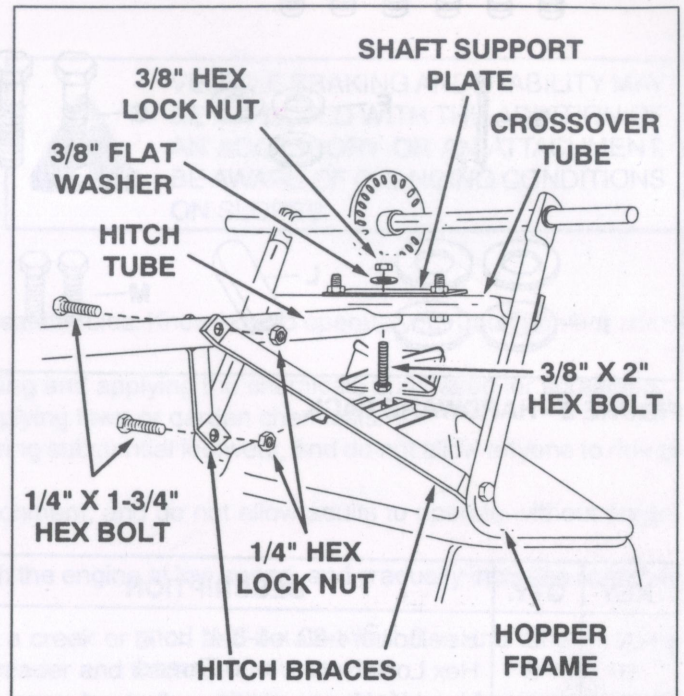

FIGURE 4
- 4. Assemble the two hitch braces to the inside of the hopper frame, one on each side, using two 1/4" x 1-3/4" hex bolts and two 1/4" hex lock nuts. See figure 4. **DO NOT TIGHTEN AT THIS TIME.**
- 6. Align the holes in the ends of the two hitch braces with the nearest hole in the hitch tube. Fasten with a 1/4" x 1-3/4" hex bolt and a 1/4" hex lock nut. See figure 4. **DO NOT TIGHTEN AT THIS TIME.**